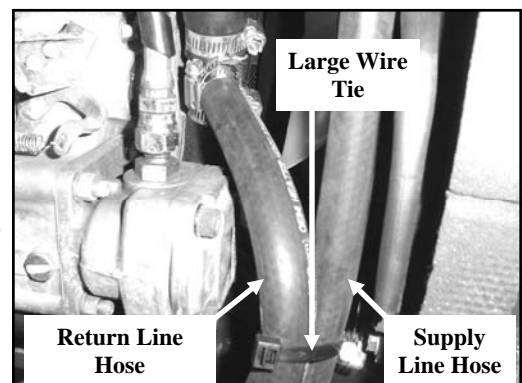
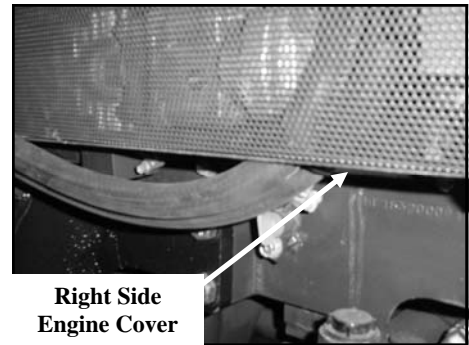

FIG. 3
FIG. 4
4. Use the remaining hose to run from the T-fitting return line nipple along the bottom of the engine compartment with the supply line hose, through the remaining hole in the windshield cowl and up to the heater. Cut to length and attach to return line T and the heater using two small hose clamps. Replace the vehicle's right side engine cover and ensure the heater hoses exit the engine compartment under this cover. Secure the two hoses away from any moving objects using the supplied large wire ties. (see FIG. 3 on this page and fig. 4 on the next page.)